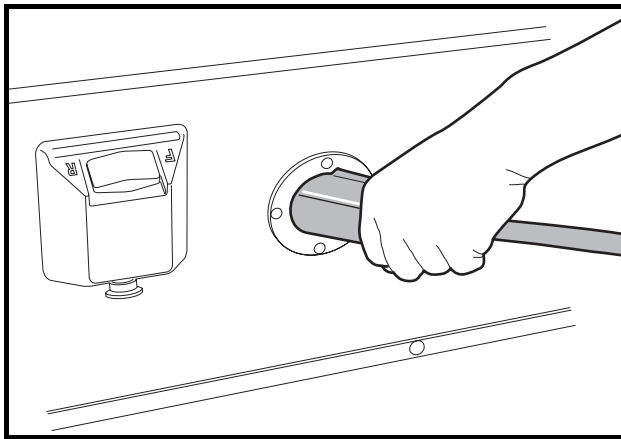

Figure 22 Correct Insertion of Charger DC Plug
- Do not rock or bend the plug. To connect the charger plug to the vehicle receptacle, grasp the plug handle and push the plug straight into the receptacle (Figure 22, Page 39).
Insert the charger DC plug into the vehicle receptacle. The charger will turn on two to ten seconds later (**Figure 22**).